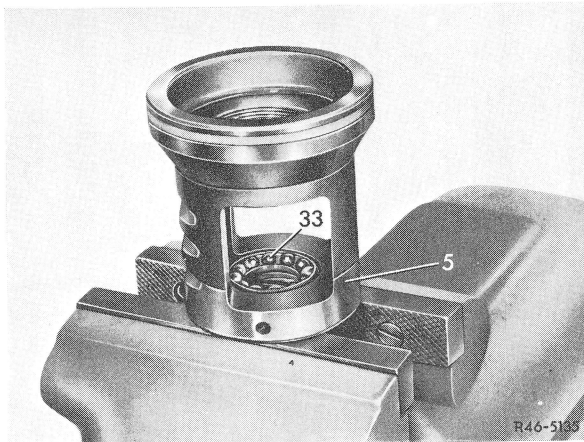

Fig. 10
10 Press outer race of axial tapered ball bearing (33) into working piston (5), position ball race and insert steering nut (4) into working piston (Fig. 10 and 11).